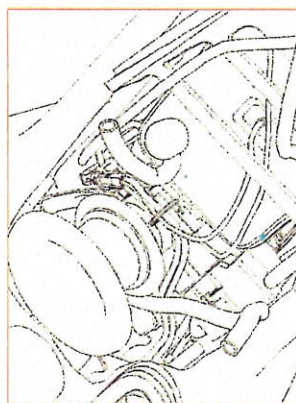
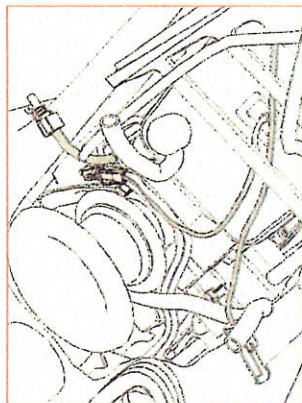

Figure 10
Figure 12
8. Locate the O2 sensor connector. Remove the cable tie and open the connector (Figure 10,11). Locate the engine temp sensor lead. It has a single fabric covered lead and emerges from the chimney on the rear head. Follow this lead and disconnect it at the single bullet type connector. (Figure 12,13)